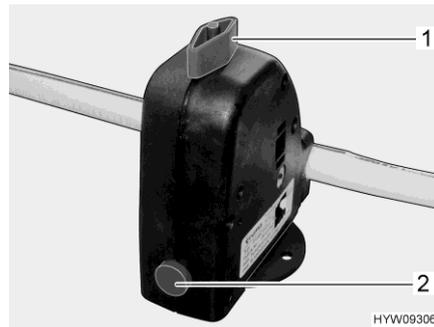

Fig. 144 Safety/drainage valve (boiler)
The boiler is equipped with a safety/drainage valve (Fig. 144). The safety/drainage valve prevents water in the boiler from freezing, when there is frost and the heater is not switched on.
- Close the safety/drainage valve. Turn the knob (Fig. 144,1) perpendicular to the safety/drainage valve and push the push button (Fig. 144,2) in.
- Open the safety/drainage valve. To do this turn the knob (Fig. 144,1) parallel to the safety/drainage valve. The push button (Fig. 144,2) jumps out. The boiler is drained to the outside by the safety/drainage valve.